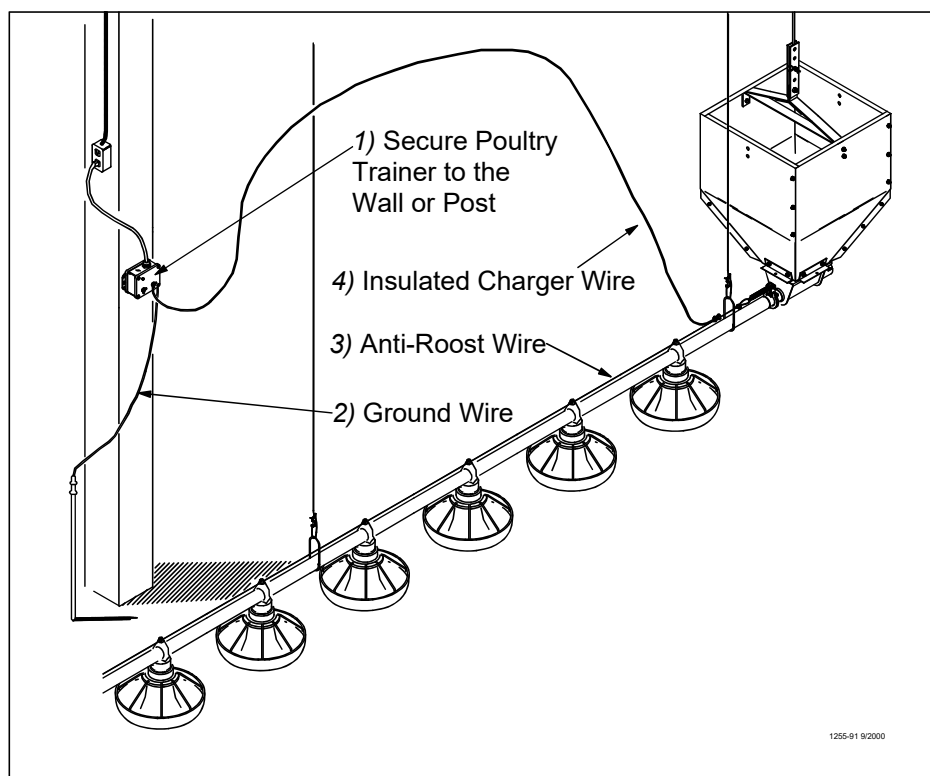

Figure 54. Poultry Trainer Installation
15. Install the Poultry Trainer or Line Charger, as shown in **Figure 54**. or **Figure 55**.
The Poultry Trainer is used to power all Anti-Roost lines in a house. See **Figure 54**.